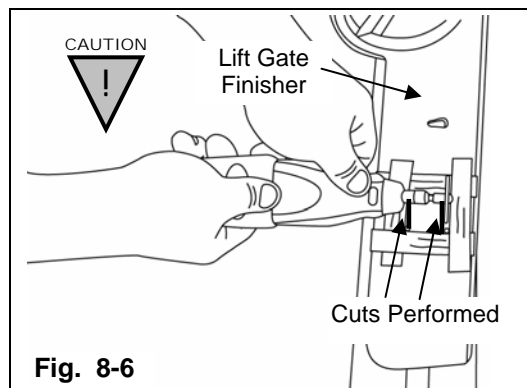

Fig. 8-6
- g) Using a dremel tool and a 13/16" rotary tool cut off wheel, create a cut at the upper and lower sections of the taped off portion, parallel to the rear gate finisher. Be sure not to protrude into the taped off portion. **(Fig 8-6)**